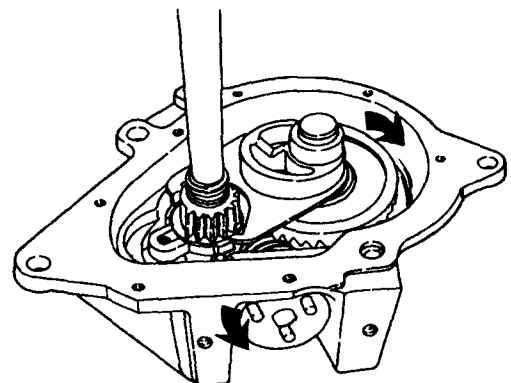

Fig. 27
- When the motor turns counterclockwise, the main drive gear in the gearcase will turn clockwise, putting the washer into an agitation mode. (Fig. 27)